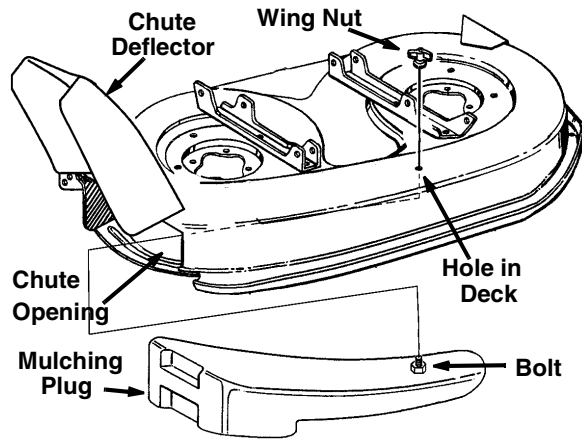

Figure 7
3. Lift up the chute deflector and insert the mulching plug through chute opening. See Figure 7.